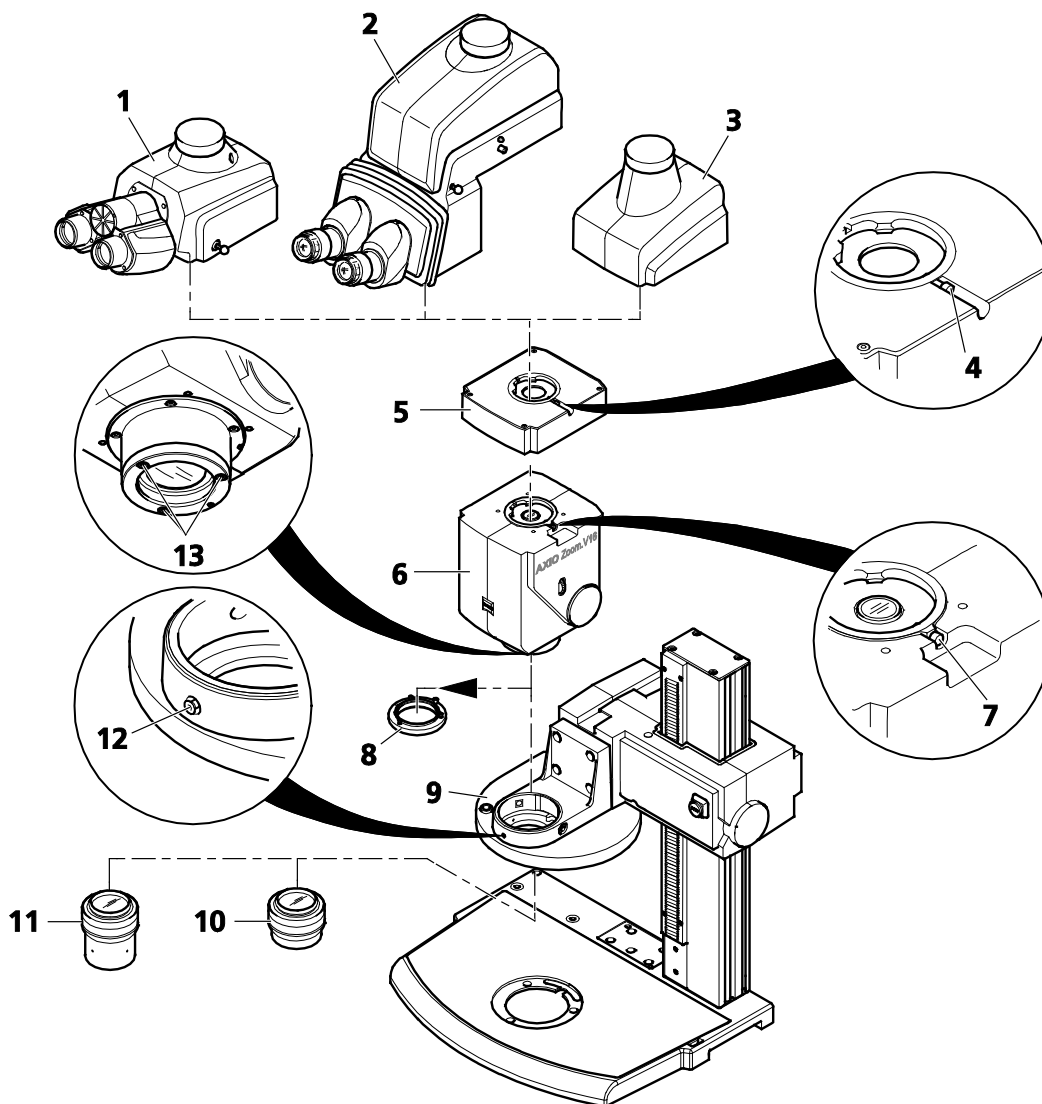

Fig. 6 Mounting the microscope
If the nosepiece is used, the threaded ring (Fig. 6/8) on the front lens of the microscope body must be removed. To do this, unscrew the three captive socket head screws (Fig. 6/13).
- Insert the body of the microscope (Fig. 6/6) into the mount (\varnothing 76 mm) of the carrier or nosepiece (Fig. 6/9), align it and hand-tighten it (Fig. 6/12).
- Screw the objective (Fig. 6/10) counterclockwise into the body of the microscope until it engages. Screw a second objective (Fig. 6/11) into the nosepiece as required.
- Insert the tubes (Fig. 6/1, 2, 3) or intermediate tubes (Fig. 6/5) with dovetail mount into the body of the microscope and hand-tighten it with a socket head screw (Fig. 6/7 or 4) using a ball-head screwdriver.
-  Either an intermediate tube (spacer tube, Fig. 6/5) or Fluar Illuminator Z mot.) may be mounted between the body of the microscope and the binocular phototube. This increases the eyepoint height by 40 mm.